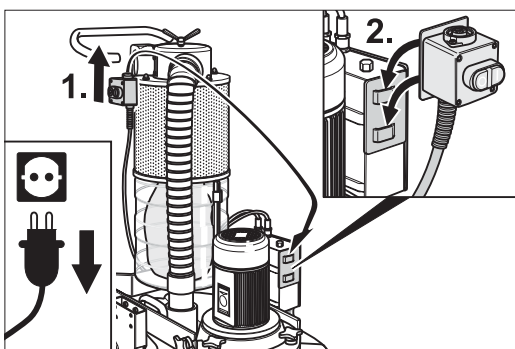

Fig. 44 Hook the on/off switch into the transport holder on the switch box.
- 6 Unhook the on/off switch from the chassis and hook it into transport support on motor switch box (Fig. 44).